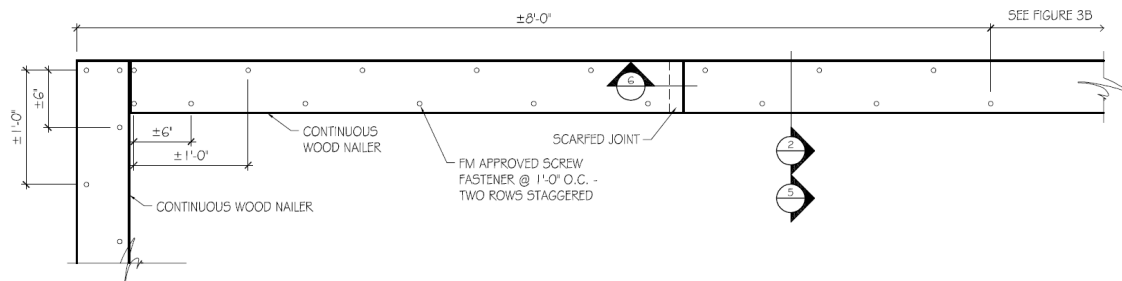

FIGURE 3A - WOOD BLOCKING CORNER ANCHORAGE 8'-0" FROM CORNER
- The staggered fastening pattern should be increased within 8 feet from outside corners as shown in **Figure 3A**.